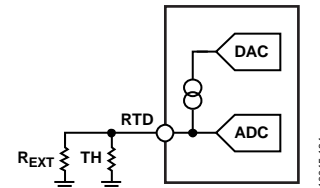

Figure 36. Temperature Measurement Using Thermistor
By connecting an external resistor ( $R_{EXT}$ ) in parallel with the NTC thermistor (TH), a constant current can be used to achieve linearization (see Figure 36).